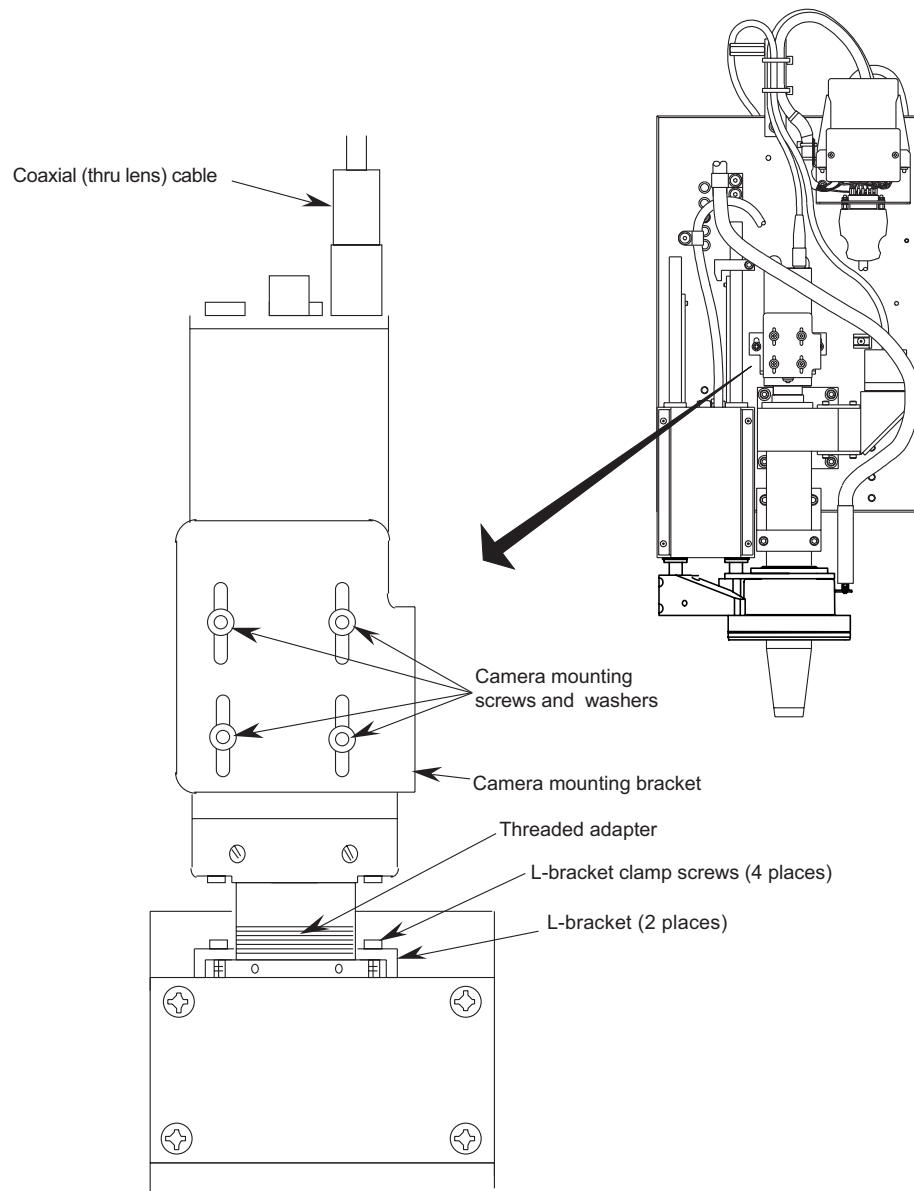

Figure 9-4 Replacing the Camera (Standard Optics)
3. Disconnect the coaxial cable from the camera by pulling up on the ends of the connector; refer to Figure 9-4.